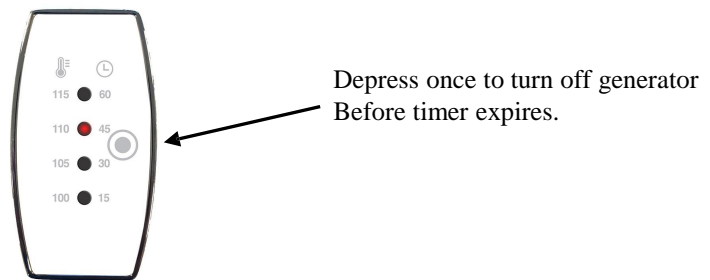

Figure 5
4. **Manual Power Off.** To manually power off the generator before the selected time has expired, press the “Control Button” once. The LED’s will go off and the generator will turn off. (Figure 5)